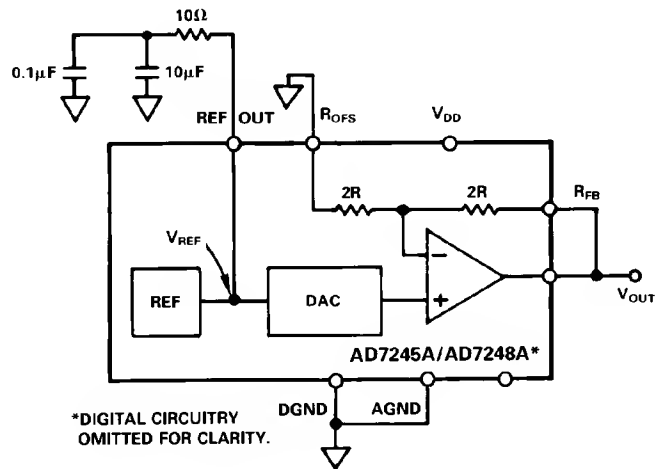

Figure 8. Unipolar (0 to +10 V) Configuration
*REFERENCE DECOUPLING COMPONENTS AS PER FIGURE 8
The first of the configurations provides an output voltage range of 0 V to +10 V. This is achieved by connecting the bipolar off-set resistor, R_{OFFS} , to AGND and connecting R_{FB} to V_{OUT} . In this configuration the AD 7245A/AD 7248A can be operated single supply ($V_{\text{SS}} = 0 \text{ V} = \text{AGND}$). If dual supply performance is required, a V_{SS} of -12 V to -15 V should be applied. Figure 8 shows the connection diagram for unipolar operation while the table for output voltage versus the digital code in the DAC latch is shown in Table III.